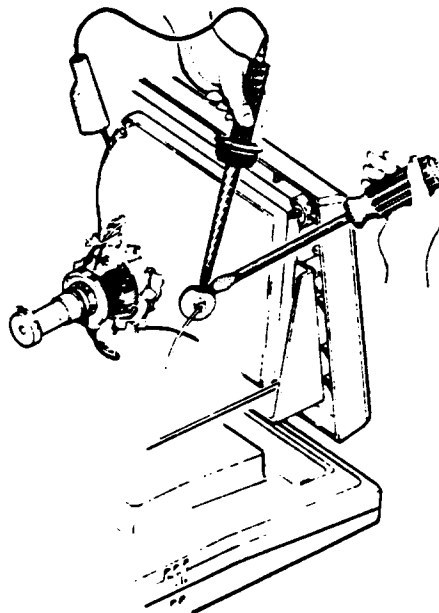

Figure 2-3. Discharging the CRT High-Voltage Circuit
1. **Discharge the CRT and the high voltage circuit, in a terminal only** after the power cord has been disconnected either from the wall power source or from the terminal's power connector, by connecting the CRT anode contact to ground for several seconds. It is **recommended** to bleed the charge off slowly by using a well insulated high voltage discharge probe with an internal resistance of about 100Kohms connected between the CRT ground spring and the anode contact (see Figure 2-3). Maintain contact with the anode for several seconds. **Observe all applicable safety regulations when discharging the CRT.**